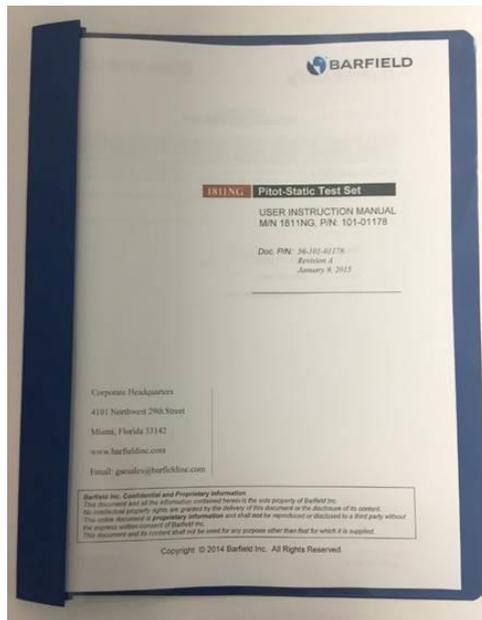

Figure 12 Instruction Manual, P/N 56-101-
1. Instruction Manual P/N 56-101-01178, see Figure 12.